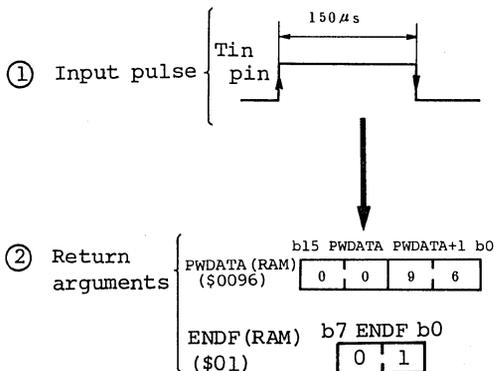

Figure 4-5. Example of PWCNT Execution
b. Example of PWCNT execution is shown in figure 4-5. If pulse, whose High period of pulse is 150  $\mu$ s, is input as shown in part ① of figure 4-5, measurement result is stored in PWCNT(RAM) as a hexadecimal number and "1" is stored in ENDF(RAM).